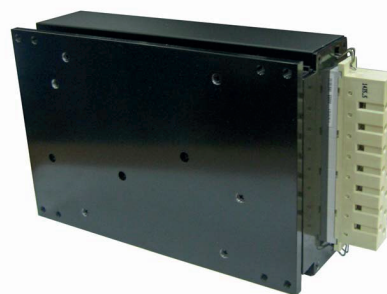

Fig. 36
- Wall-mounting plate K02 (HZZ01213-G) for models with option B1; see fig. 36